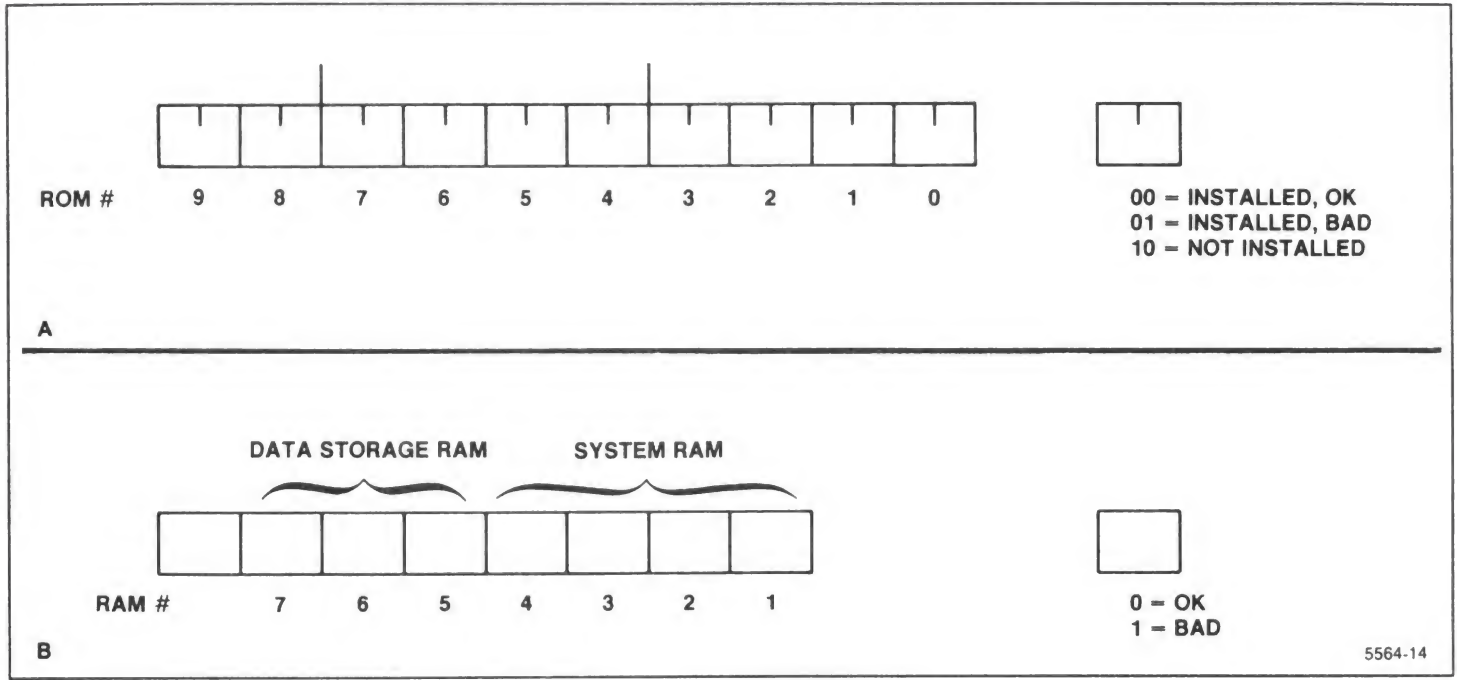

Figure 9-1. TEST Conversion Chart.
The TEST query response consists of two decimal numbers that indicate if a ROM or RAM IC was found to be defective. These numbers must be translated to their binary equivalents to determine the ROM and RAM locations. (If all ROM and RAM are good, the TEST query response will be ROM:0, RAM:0.) After the binary numbers are determined, put them into the conversion chart in Figure 9-1 to identify the IC number. Then, use Table 9-3 to find the correct circuit number and circuit board. The following example shows how to use the conversion chart and Table 9-3. If any ROM or RAM ICs are indicated to be bad, refer this information to qualified service personnel.
2. Insert this binary number in part A of Figure 9-1 (right-justified). Blocks 6 and 2 will be 0's. This indicates that both ROM 6 and ROM 2 are bad; all other ROMs are good.
2. Insert this binary number in part B of Figure 9-1 (right-justified). Blocks 4 and 2 each contain a 1, which indicates that both RAMs 4 and 2 are bad; all other RAMs are good.